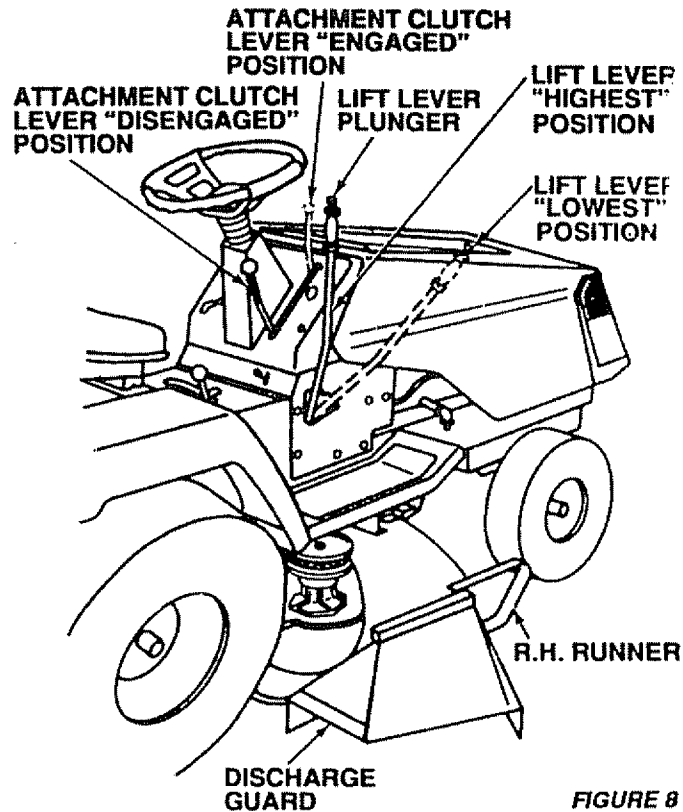

FIGURE 8
- Depress lift lever plunger and move the attachment lift lever to the highest position. See Fig. 8.
- f. Move throttle lever to half throttle and slowly move attachment clutch lever to engaged position, Fig. 8.
- b. Use the runner on the R.H. side as a guide; the blade cuts approximately an inch outside the runner (Fig. 8).